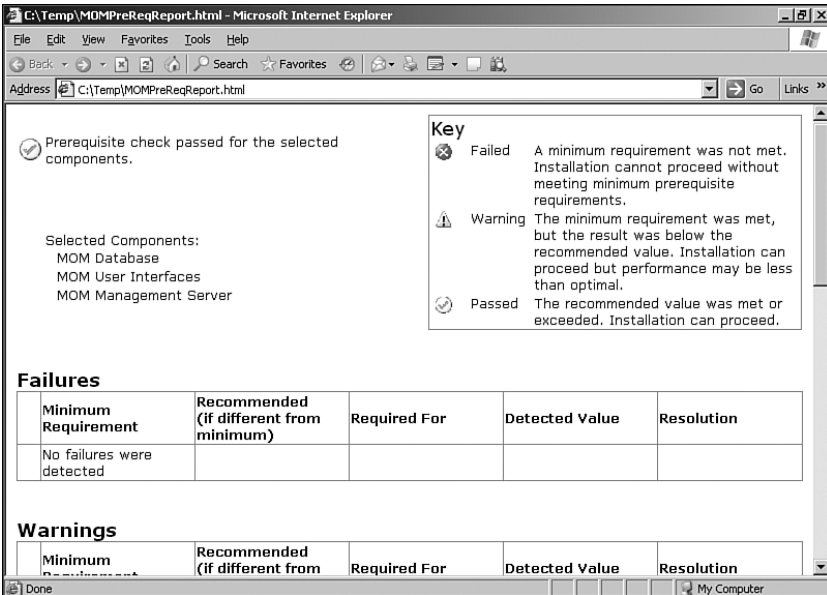

FIGURE 6.4 Results from the prerequisite checker.
3. The resulting report, illustrated in Figure 6.4, shows you which components were tested and whether or not they passed the installation prerequisites. The status indicators are of a red light/yellow light/green light variety. If you have any failures (stop signs), you cannot proceed. Warning signs indicate issues that setup will not block but should be looked into, and a green light indicates it is safe to proceed. If you have any failures (and/or warnings you want to address), go ahead and correct those issues. Then rerun the prerequisite checker until all systems are “go.”